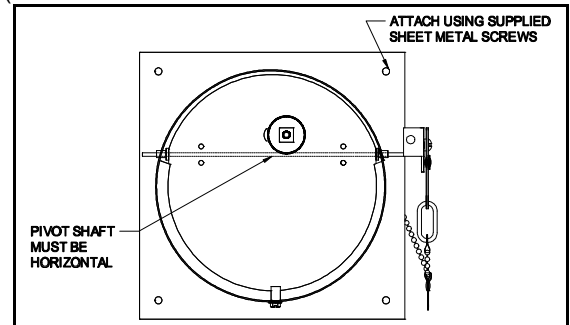

Figure 2
2. After allowing template to dry, drill (4) 1/8 inch diameter holes at the location indicated on the template. Also, drill 4 or 5 holes along the cutting line of the 6 1/8 inch diameter hole indicated on the template to allow for a starting hole for cutting. Then cut hole with metal shears.
3. Mount the metering air damper using supplied sheet metal screw. (See Figure 2)